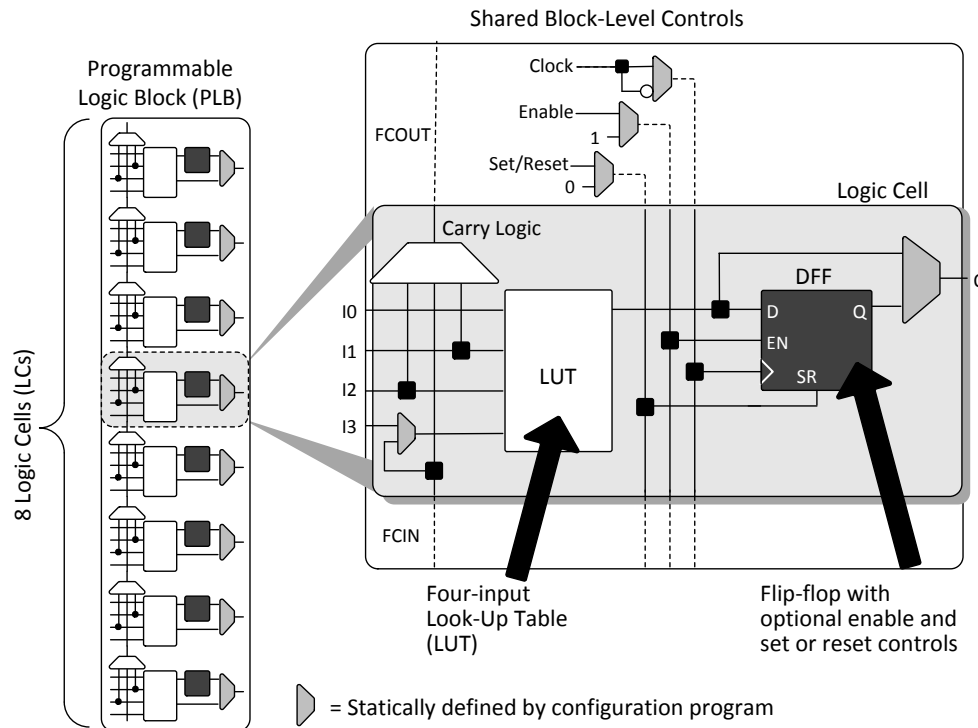

Figure 3.2. PLB Block Diagram
The core of the iCE40 Ultra device consists of Programmable Logic Blocks (PLB) which can be programmed to perform logic and arithmetic functions. Each PLB consists of eight interconnected Logic Cells (LC) as shown in Figure 3.2. Each LC contains one LUT and one register.
Each Logic Cell includes three primary logic elements shown in Figure 3.2.